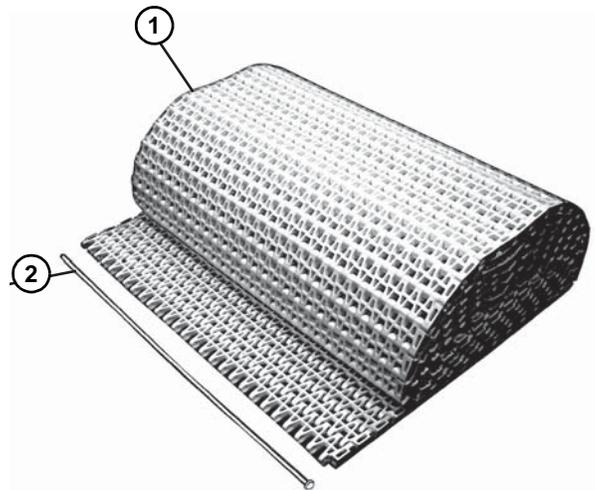

**Figure 11**
2. Attach the stands (**Figure 11, item 1**) to the frame. Tighten carriage bolt nuts to 14-16 ft-lbs (19-22 Nm).